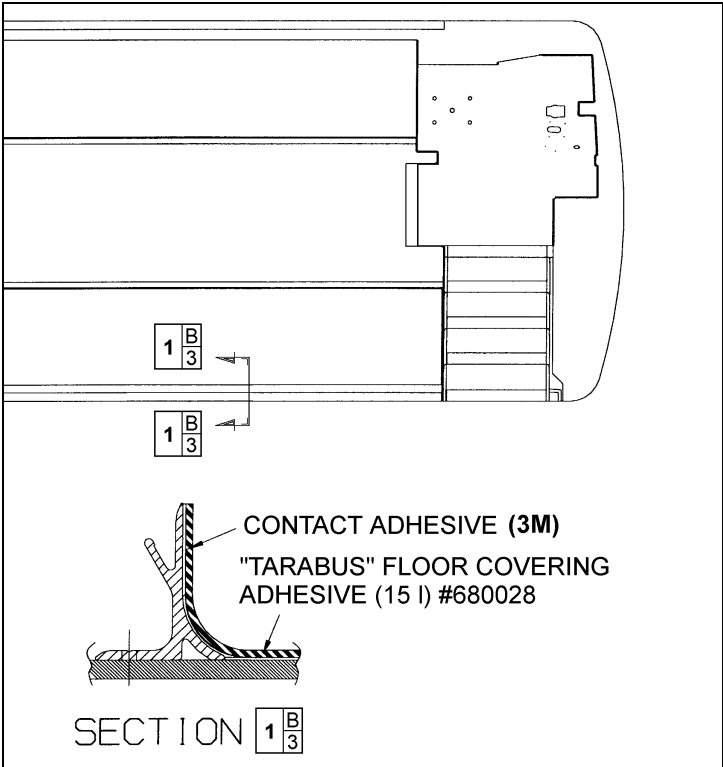

FIGURE 25: TARABUS FLOOR COVERING ADHESIVE APPLICATION
6. Apply floor covering adhesive (680028) onto plywood using a serrated spreader with 1/8-inch serration. If required, apply contact adhesive (3M) (684655 or 684654) onto aluminum molding and also onto section of floor covering, which will be in contact with molding (refer to Figure 25).